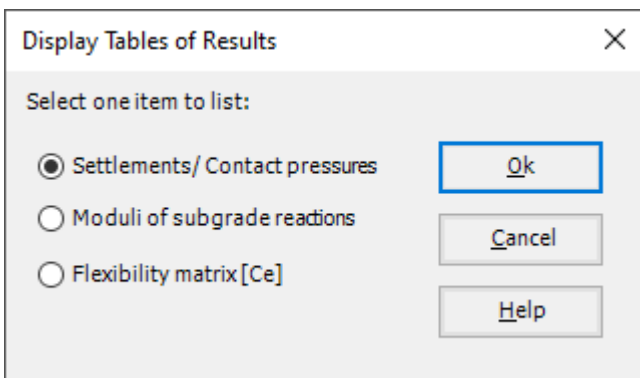

Figure 1.24 "Display Tables of Results" option box
- Choose "Display tables of Results" command from "List" menu. The following option box in Figure 1.24 appears